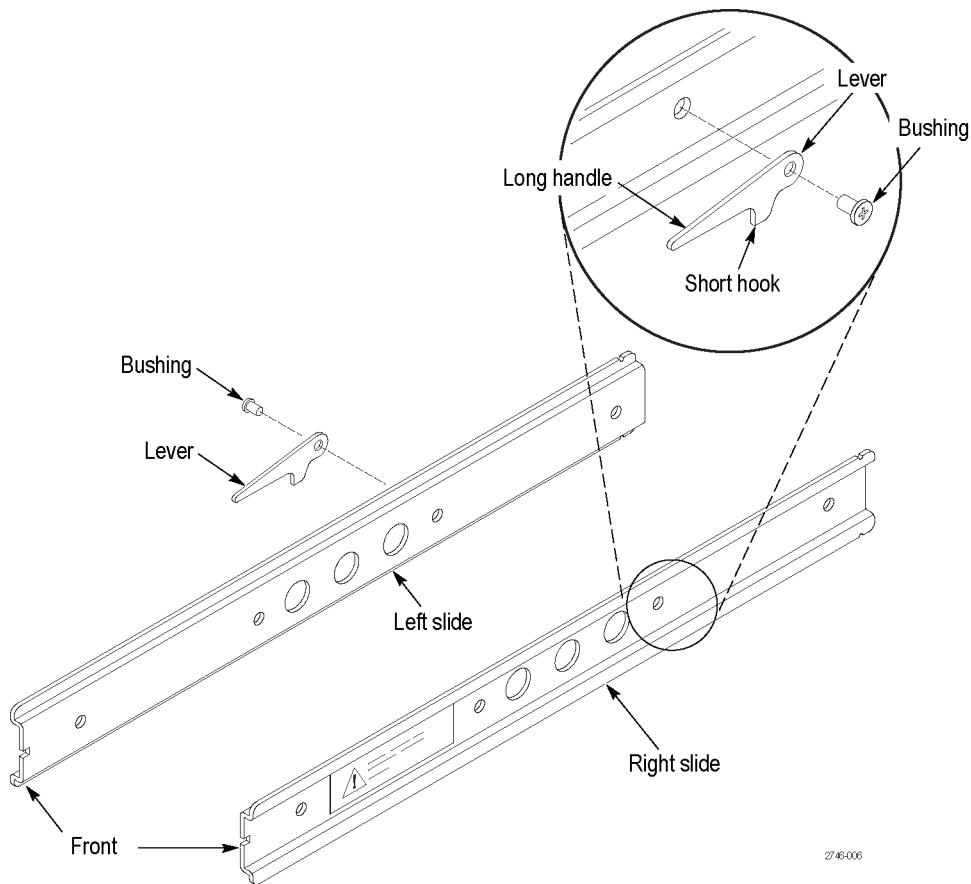

Figure 4: Attaching the slides (SPG700, SPG8000 and SPG8000A only)
- b. **SPG700, SPG8000 and SPG8000A only:** Using either the metric or English screws, depending on your instrument, insert two screws into the first two holes. (See Figure 4.)